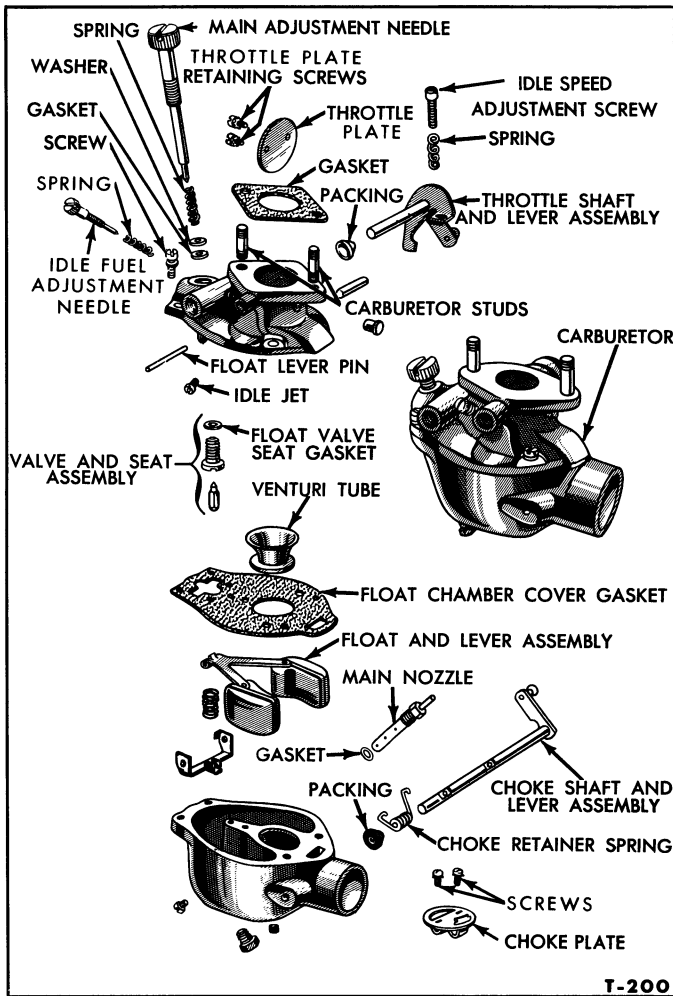

Figure 7—Carburetor Disassembled
5. Remove the float, bowl gasket, venturi, and float valve from the cover, Figure 7. Remove the float valve seat and gasket with a screwdriver that is wide enough to engage both slots in the valve seat.
NOTE: Later model carburetors incorporate a float valve support spring and support, Figure 7.
A disassembled view of the carburetor is shown in Figure 7.
3. Install the idle jet, Figure 7.
NOTE: Install the float support spring and support if the carburetor is so equipped, Figure 7.
7. Install the retainer and packing in the carburetor bowl. Slip the shaft through the bore, then install the choke plate and retaining screws, Figure 7.